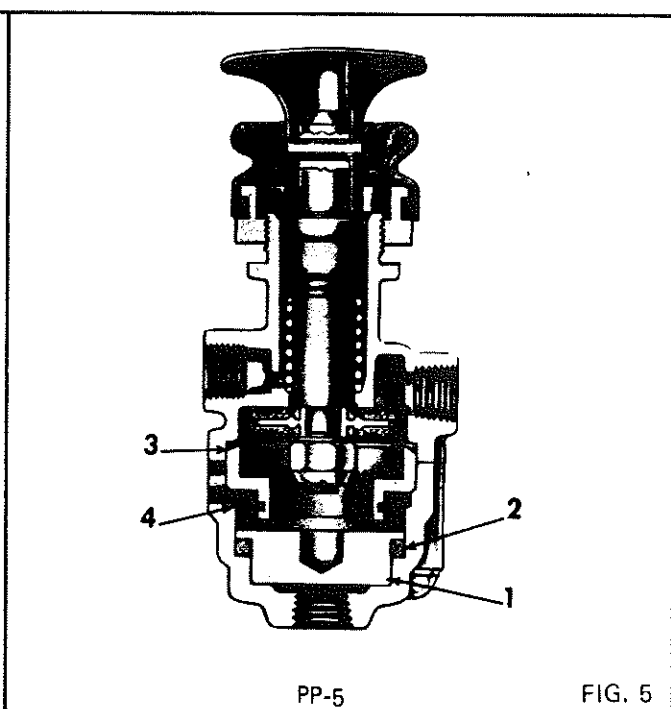

FIG. 5
DISASSEMBLY PP-5 (Figure 5)
2. Remove inlet seal (3) Figure 5 from lower cover. Remove the ring diaphragm (4) from the inlet seat.
3. Remove piston (1) Figure 5 and O-Ring (2).